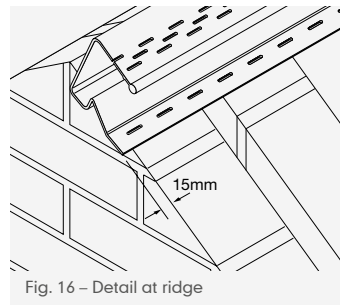

Fig. 16 – Detail at ridge
- 1 When used with the Marley dry ridge system, low profile batten sections should extend 15mm beyond the outer wall or outer edge of the bargeboard (Fig. 16).